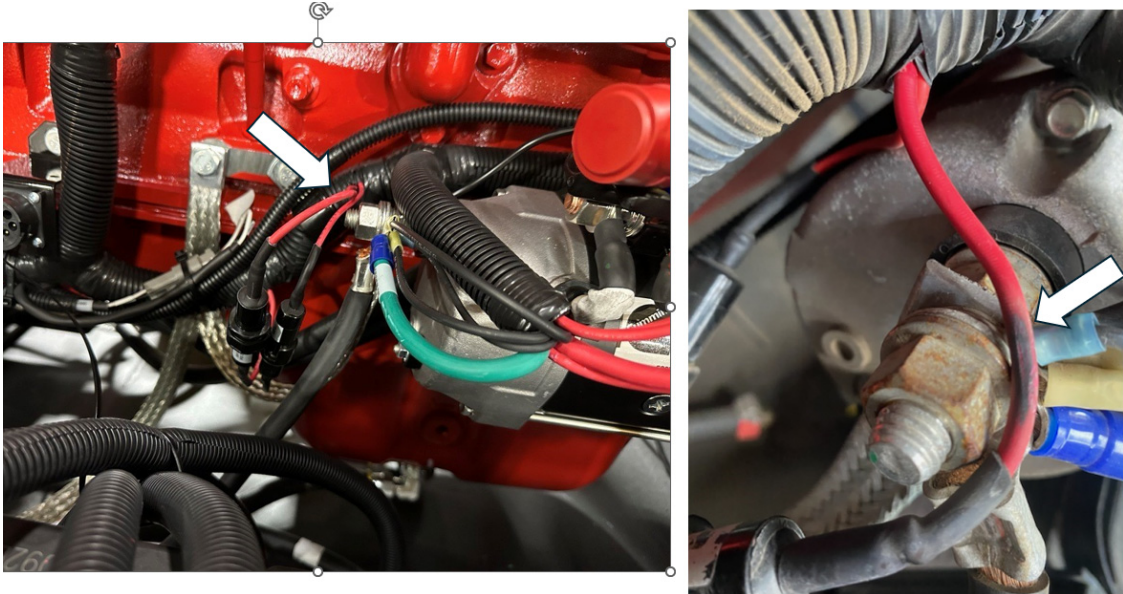
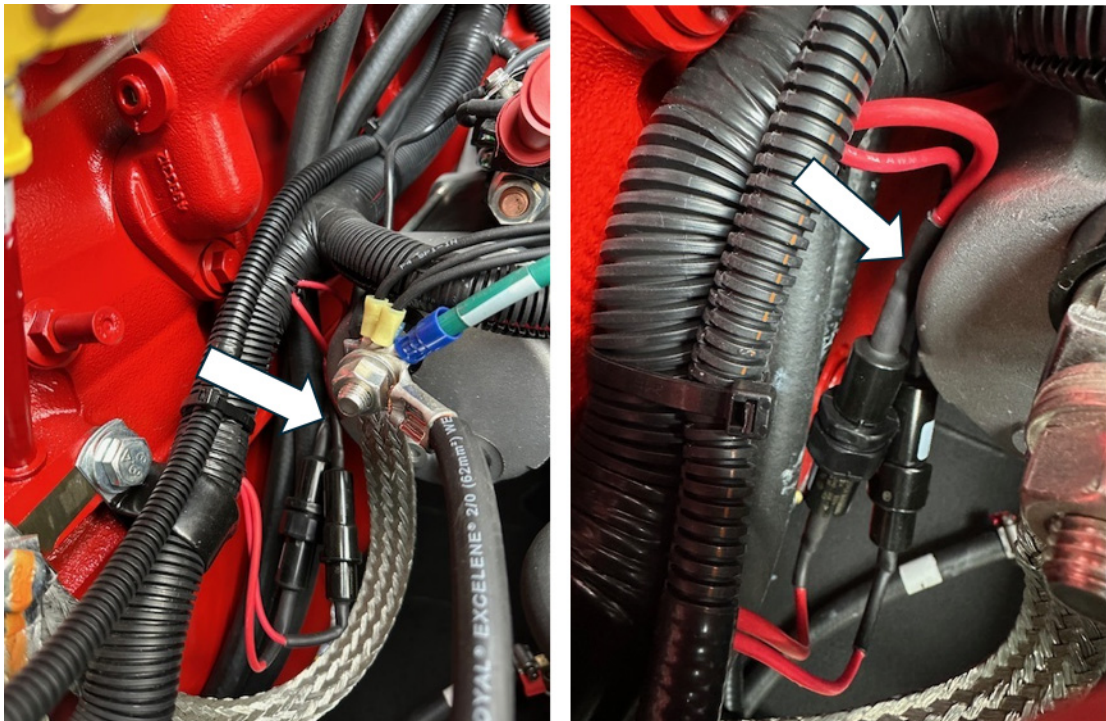

Figure 2: Example of exposed red wires touching the terminal stud of the starter motor, and resulting chafing damage
Figure 3: Example of the exposed red wires touching the housing of the starter motor
4. If the red wires are touching the housing or terminal stud of the starter motor, or if the red wires show signs of chafing or damage, DO NOT use the unit until repaired by a certified Cummins repair facility. An example of the exposed red wires touching the terminal stud of the starter motor, and the resulting chafing damage to the wire insulation, is shown in Figure 2. An example of the exposed red wires touching the housing of the starter motor is shown in Figure 3.